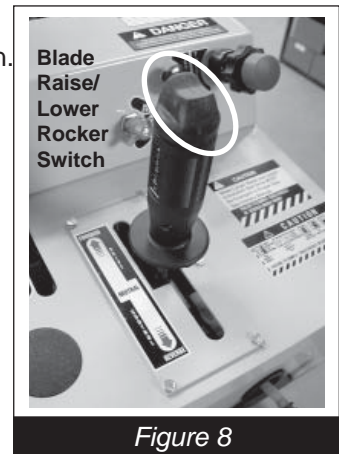

Figure 8
- Lower the blade by depressing the blade lift/lower switch (Figure 8) until it just touches the slab surface. When blade touches, set the depth indicator to zero.
- Raise the blade completely out of the cut by depressing the blade lift/lower switch. (Figure 8) DO NOT attempt to raise the blade with the depth control lock.